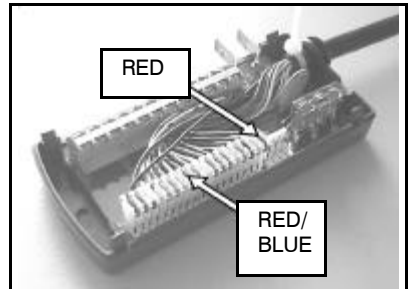

Fig. 2
*The blue/red wire on the 8-way plug goes to pin 11 on the PCB connector (fig. 2).*
3. Locate the cable grommet onto the moulding, and cable-tie the head unit lead onto the moulded cable saddle to provide strain relief (fig. 2).